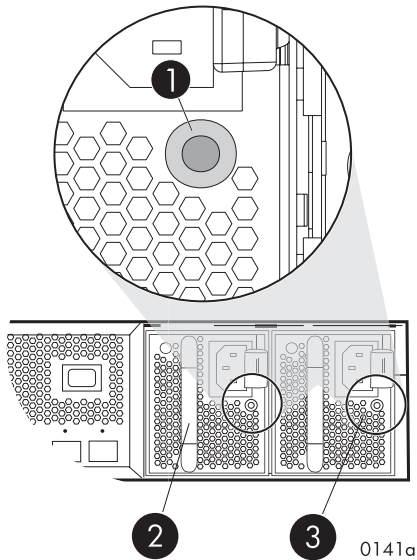

Figure 45 Power supply status indicator
- Check the power supply status indicator. See Figure 45. It should be amber or off.